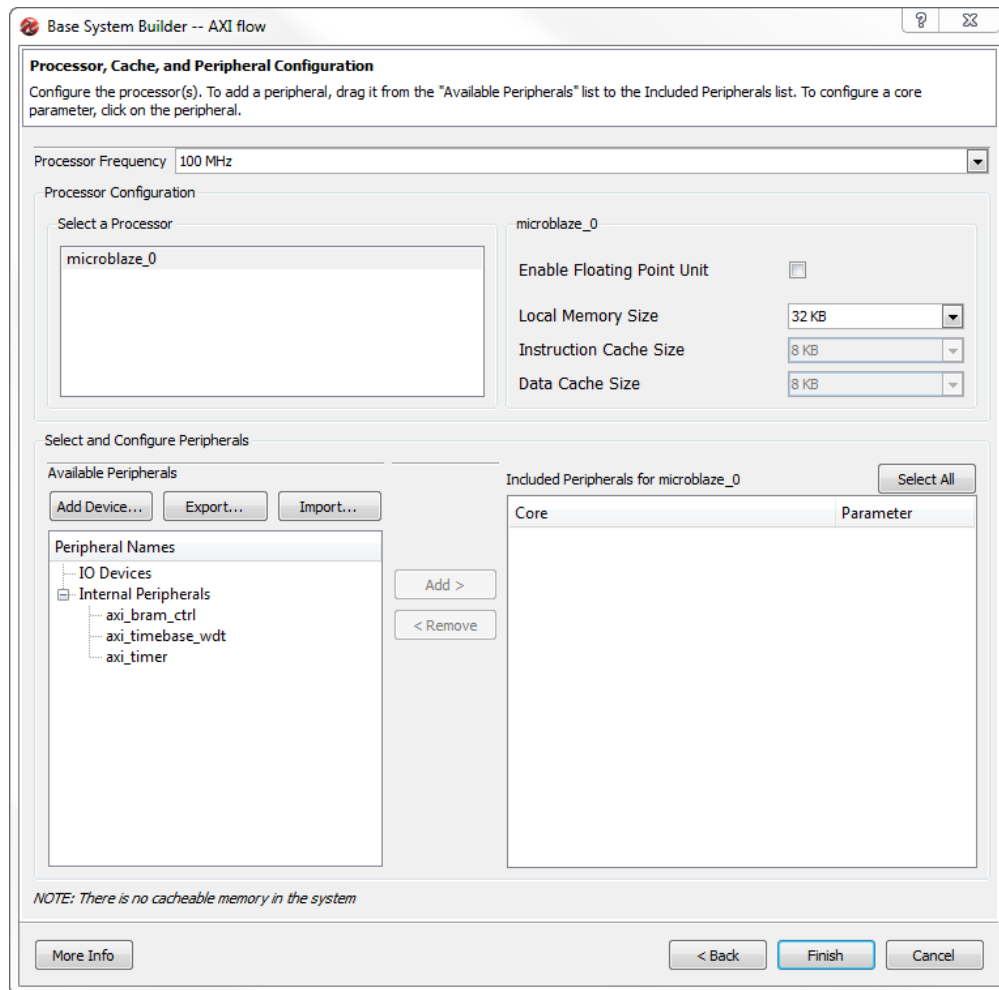

Figure 6: BSP Wizard, Select and Configure Peripherals
5. On the **Processor and peripheral Configuration**(Figure 6) select: